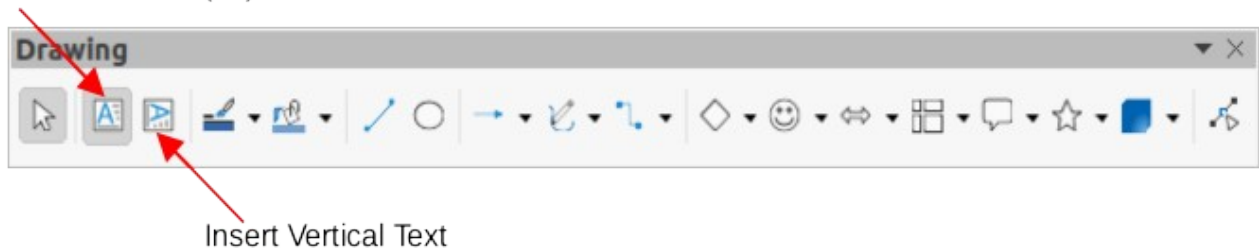

Figure 7: Drawing toolbar with Insert Vertical Text added
- or Drawing toolbar (Figure 7).